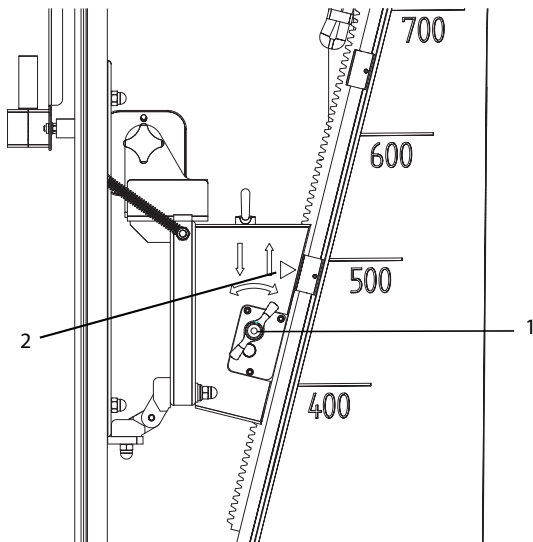

Fig. 9: Moving upwards
2. Move the vertical release to the Downwards position (rotate to the left). See also fig. 9.